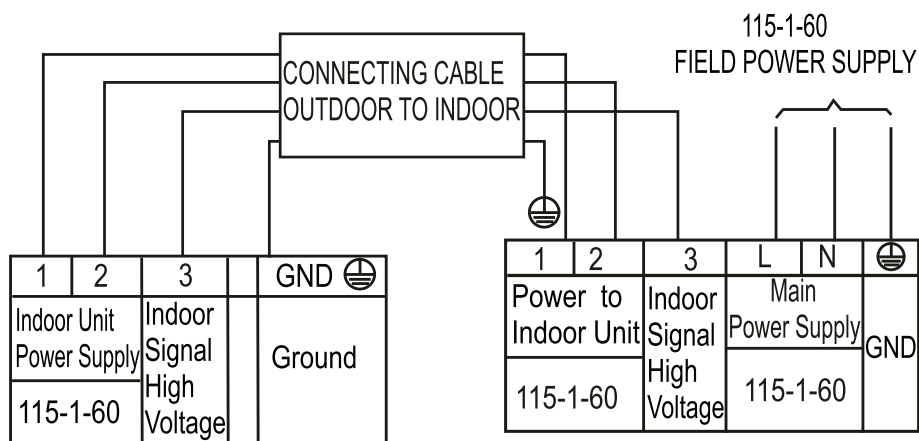
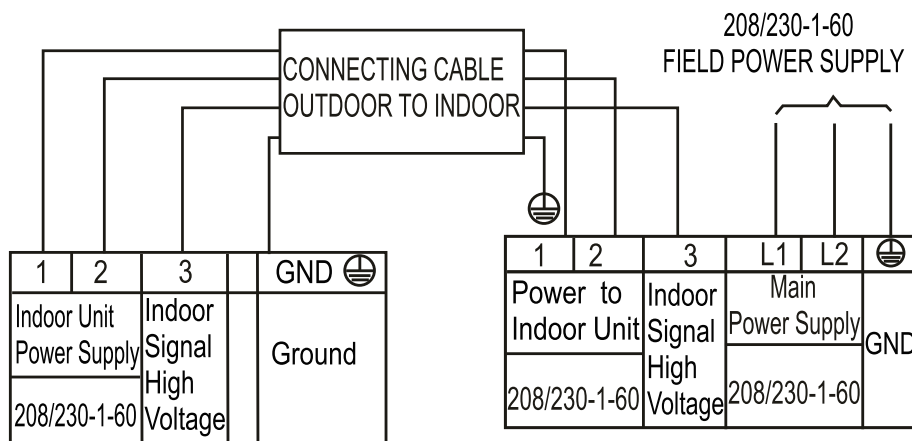

Fig. 24 — Connection Diagram Sizes 9K - 12K (115V)
Fig. 25 — Connection Diagram Sizes 9K - 24K (208/230V)
8. Connect the wiring from the outdoor unit per the connection diagram (see Fig. 24 and Fig. 25).